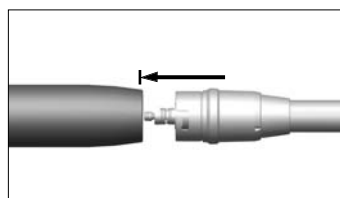

fig. 1a
- Disconnect the micromotor from the cable (**fig. 1a**)